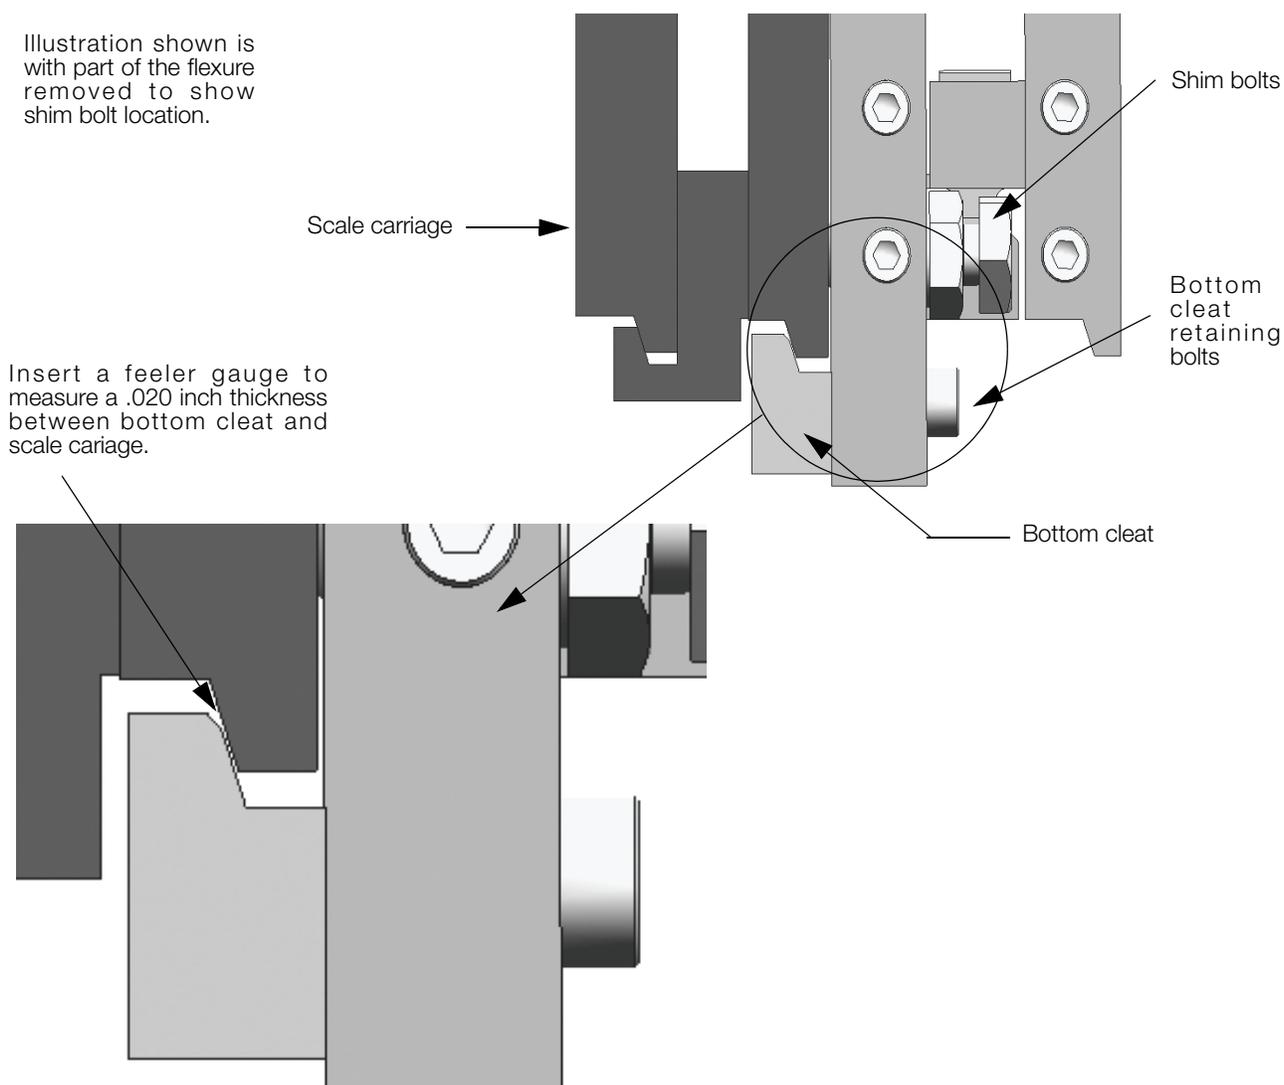

Figure 2-5. Bottom Cleat Location and Assembly
11. Attach the bottom cleats to the bottom of the scale assembly (see Figure 2-5), so that the lip of the cleat is behind the original carriage.
12. Torque the bottom cleat retaining bolts to 125 ft-lbs (shown in Figure 2-5 for bottom cleat location).
14. Tighten the shim bolt jam nuts and verify their clearances as shown in Figure 2-5.